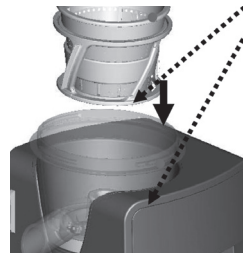

Fig. 4
- 4) Place the strainer (6) with the separator (5) into the juice collector (4) so that the marks ● on the strainer and the motor unit (2) are aligned (fig. 4)